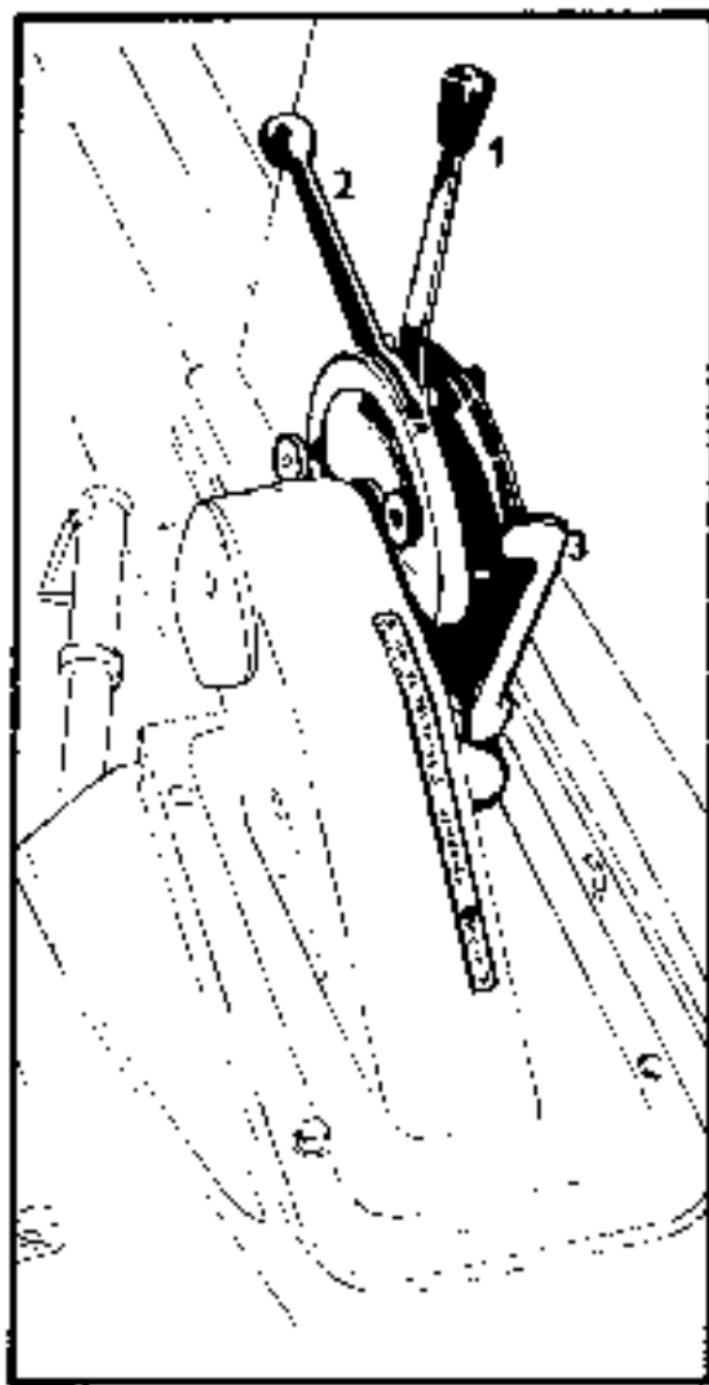

Fig. 7
- Inner hydraulic circuit control lever -- square-shaped (Fig. 7/7)
Outer hydraulic circuit control lever (Fig. 7/2)
Hydraulic power lift system selector (Fig. 7/3)